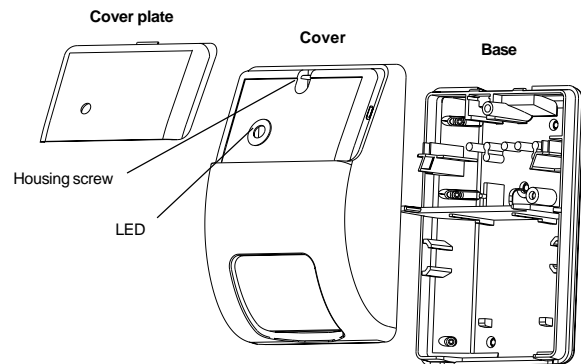

Figure 1. Exploded view
1. To remove the cover plate, insert a flat-bladed screwdriver between the notch on the top of the cover plate and the cover. Pry up the cover plate. See Figure 1.
2. Remove the housing screw that holds the cover to the base, insert a flat-bladed screwdriver into the slot above the screw hole. Pry the cover off the base. See Figure 1.
11. To replace the cover, insert the closing tabs at the bottom of the cover into the guides at the bottom of the base and snap the cover down. Insert the screw. Fit the hole in the cover plate over the LED and snap the cover plate into place. See Figure 1.